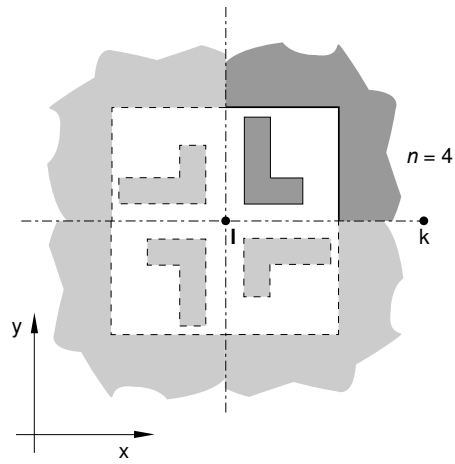

Figure 1: *CYCLIC, TYPE=POINT option.
Set TYPE=POINT to create a two-dimensional cavity by cyclic repetition of the cavity surface defined in the model by rotation about a point, *l*. See Figure 1. The cavity surface defined in the model must be bounded by the line *lk* and a line passing through *l* at an angle, measured counterclockwise when looking into the plane of the model, of $360^\circ/\text{NC}$ to *lk*.
1. *x*-coordinate of rotation point *l* (see Figure 1).